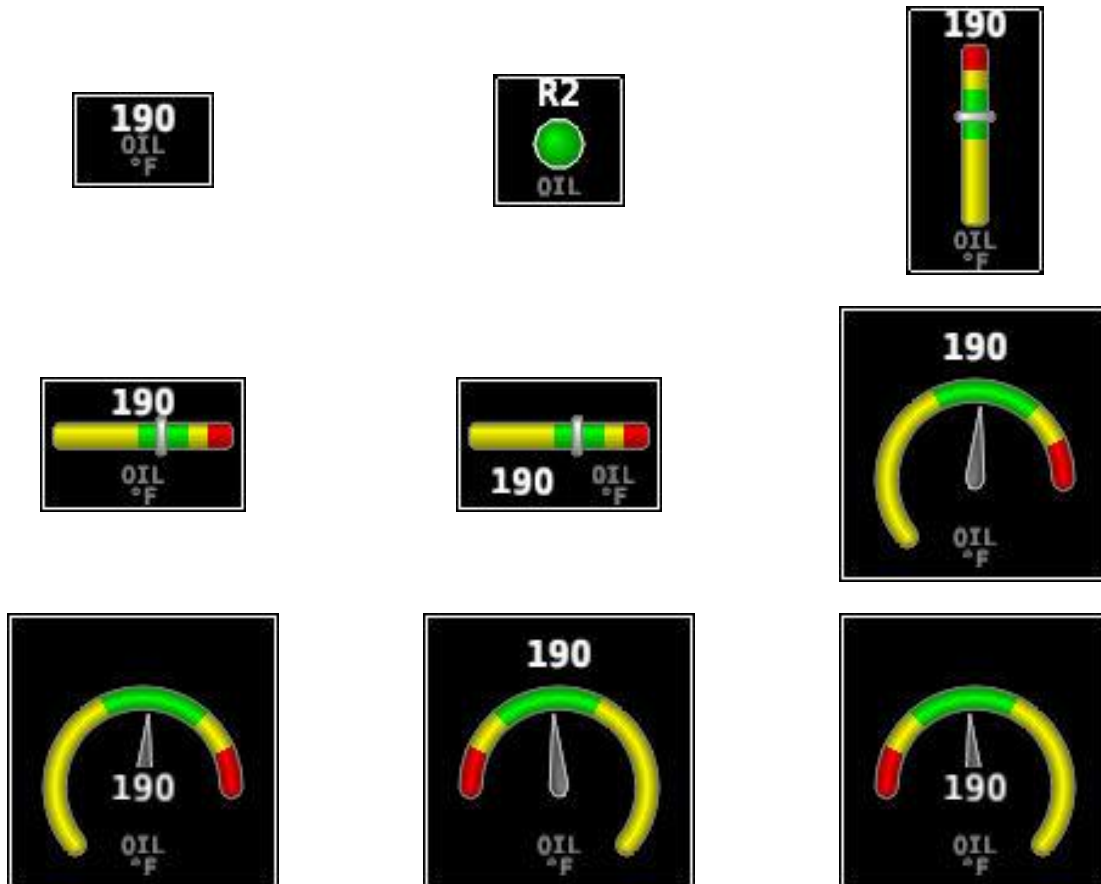
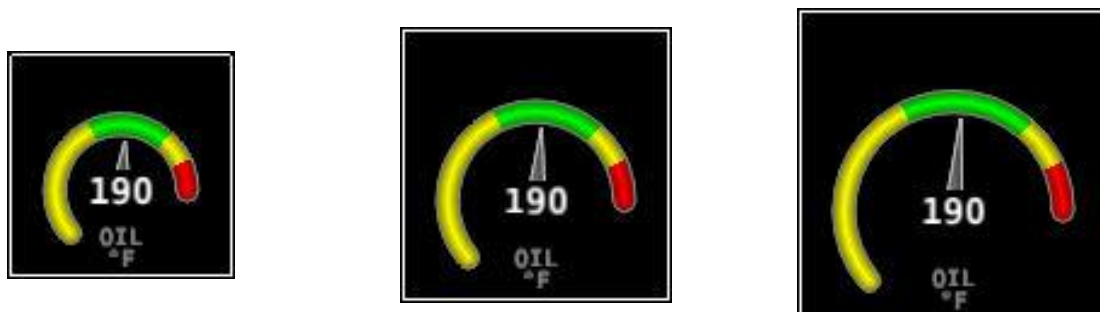

Figure 101 – Example of Oil Temperature Widget Styles
Figure 102 – Example of Oil Temperature Widget Sizes
If one SkyView display is being used as a dedicated Engine page with a 100% page layout, installer may consider using individual widgets to display the functions listed above. Individual widgets are selected from the SCREEN LAYOUT EDITOR's SENSOR list and are labeled Function (1) and Function (2). The Function (1) widget is linked to the EMS module installed for the left engine, which is configured as ENGINE #1 EMS in SETUP MENU > EMS SETUP > DUAL EMS SETUP. The Function (2) widget is linked to the right engine EMS module (ENGINE #2 EMS). These widgets come in the same style and size variations as shown in Figure 101 and Figure 102.